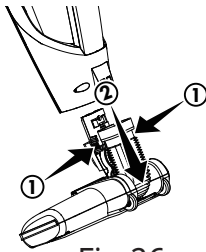

Fig.26
- To clean out the hose, press the hose release tabs, as illustrated, and pull the motorised brush head away from the main body (Fig.26).